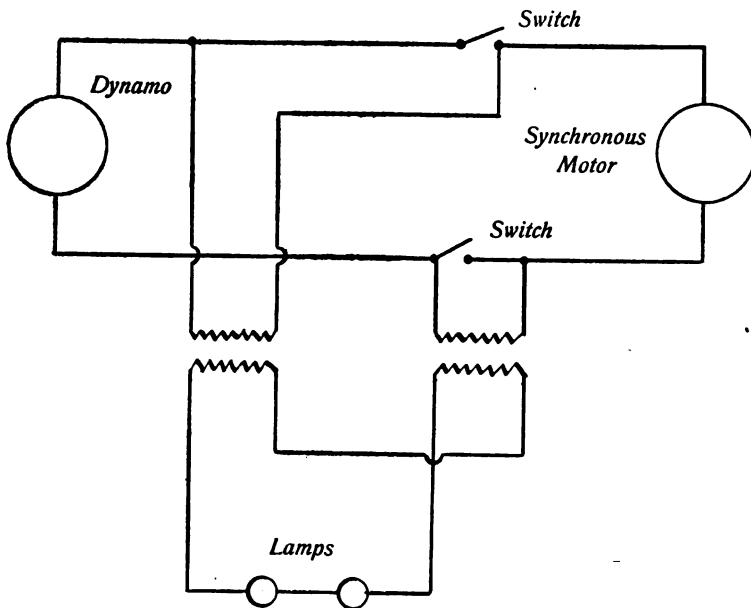

FIG. 100.—Method of starting Synchronous Motors or Rotary Converters.
*Fig. 100* shows the connections of transformers and synchronising lamps sometimes used for starting synchronous motors or rotary